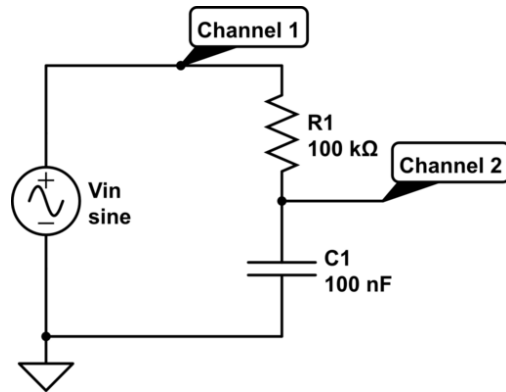
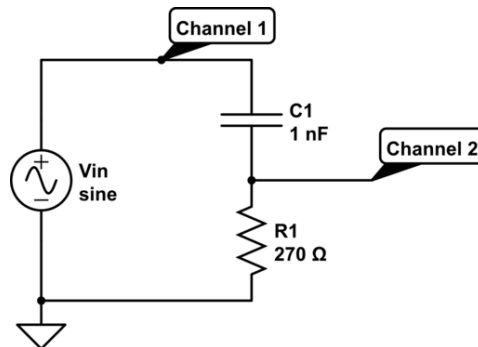

Figure 2: An RC circuit which outputs the integral of the input.
Figure 4: An RC circuit which outputs the derivative of the input.
- Watch the Lab 3 video demonstrating the derivation for the output voltage of the circuit shown in figure 2 (On moodle or www.youtube.com/watch?v=nAsnk1Yj4u8).
- Q. Following the same procedure, derive the output voltage for the circuit shown in figure 4. **You will need this equation in lab.**
- Q. For both circuits (fig 2 and fig 4) what are the phase angle and magnitude of V_{out} (relative to V_{in}) when $\omega = 1/(RC)$?
- Set values for the capacitor and resistor to match those in figure 2 and set the frequency to $1/(2\pi RC)$.
- Obtain components R_1 and C_1 as shown in figure 2. Use your multimeter to obtain more accurate values for your components.
- Build the circuit shown in figure 2.